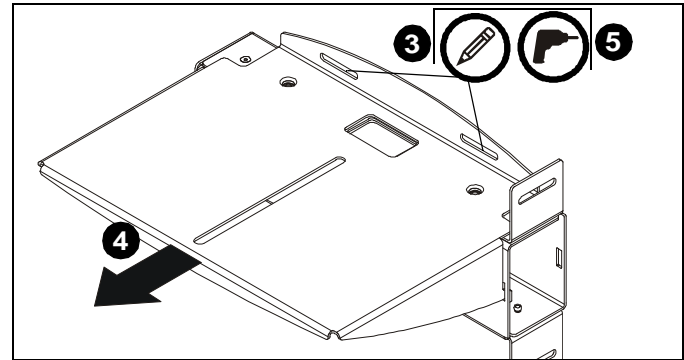

Figure 3
3. Mark mounting slots from shelf (A) onto wall above bracket (B). (See Figure 3)
4. Remove shelf (A) from bracket (B). (See Figure 3)